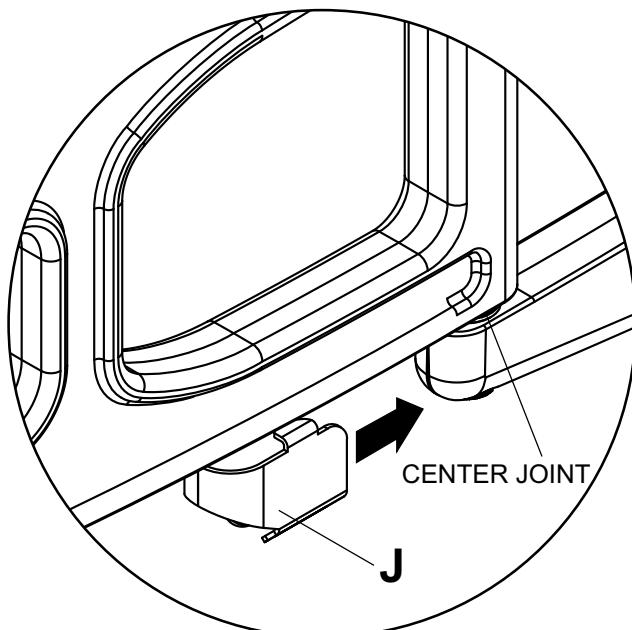

fig. 5.1
- 5** Cables may be routed using cable clip (J).
Slip cable clip (J) onto bottom of center joint as shown in figure 5.1 and secure cables to cable clip using cable tie (K) as shown in figure 5.2.